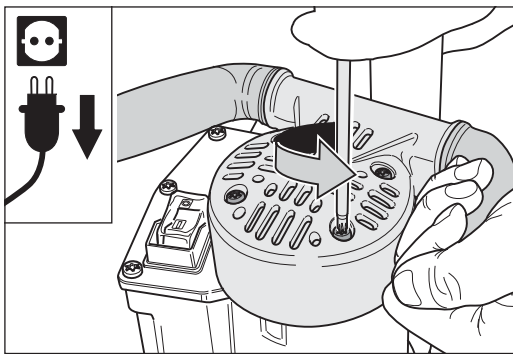
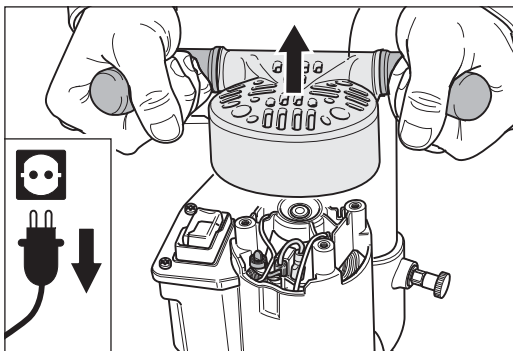

Fig. 44 Remove the four fixing screws of the handle.
Fig. 45 Remove the handle. **Make sure that no parts fall into the motor!**
- 3 Undo the four fixing screws of the handle (Fig. 44) and remove it from the motor housing (Fig. 45). **Make sure that no parts fall into the motor when doing so!**